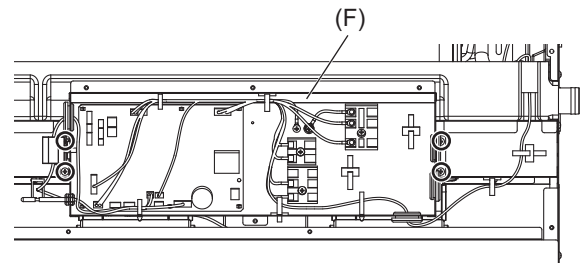

Fig.11
3. Remove the fixing screws on the control box (F), to remove it. (Fig.11)